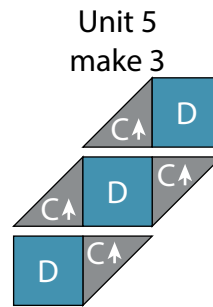

Fig. 20
10. Follow Figure 20 and sew together (4) $5 \frac{7}{8}$ " Fabric C triangles and (3) $5 \frac{1}{2}$ " Fabric D squares to make (1) Unit 5 segment. Repeat to make (3) Unit 5 segments total.